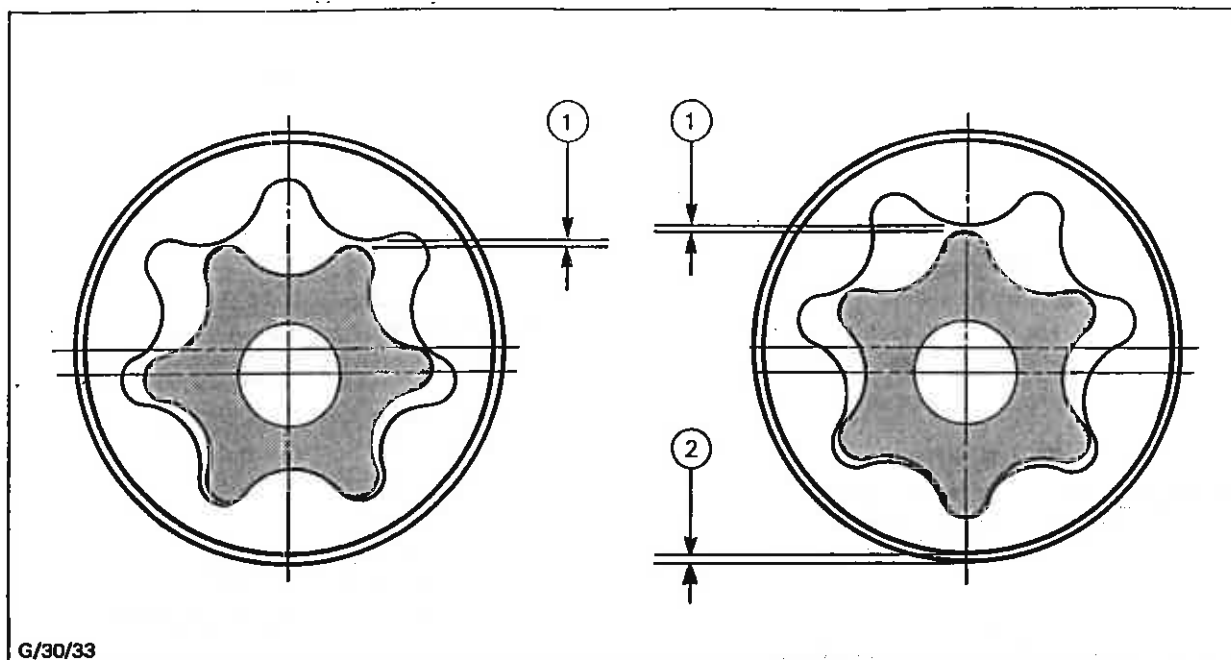

Fig. 9 - Measuring Rotor Clearance - 2722, 2723, 2725 and 2726T Engines Fitted with High Inclination Oil Pans
3. Inner to outer rotor clearance and outer rotor to pump housing clearance should be measured with a feeler gauge, see Fig. 9; if these exceed the clearances specified, the inner and outer rotor should be renewed.